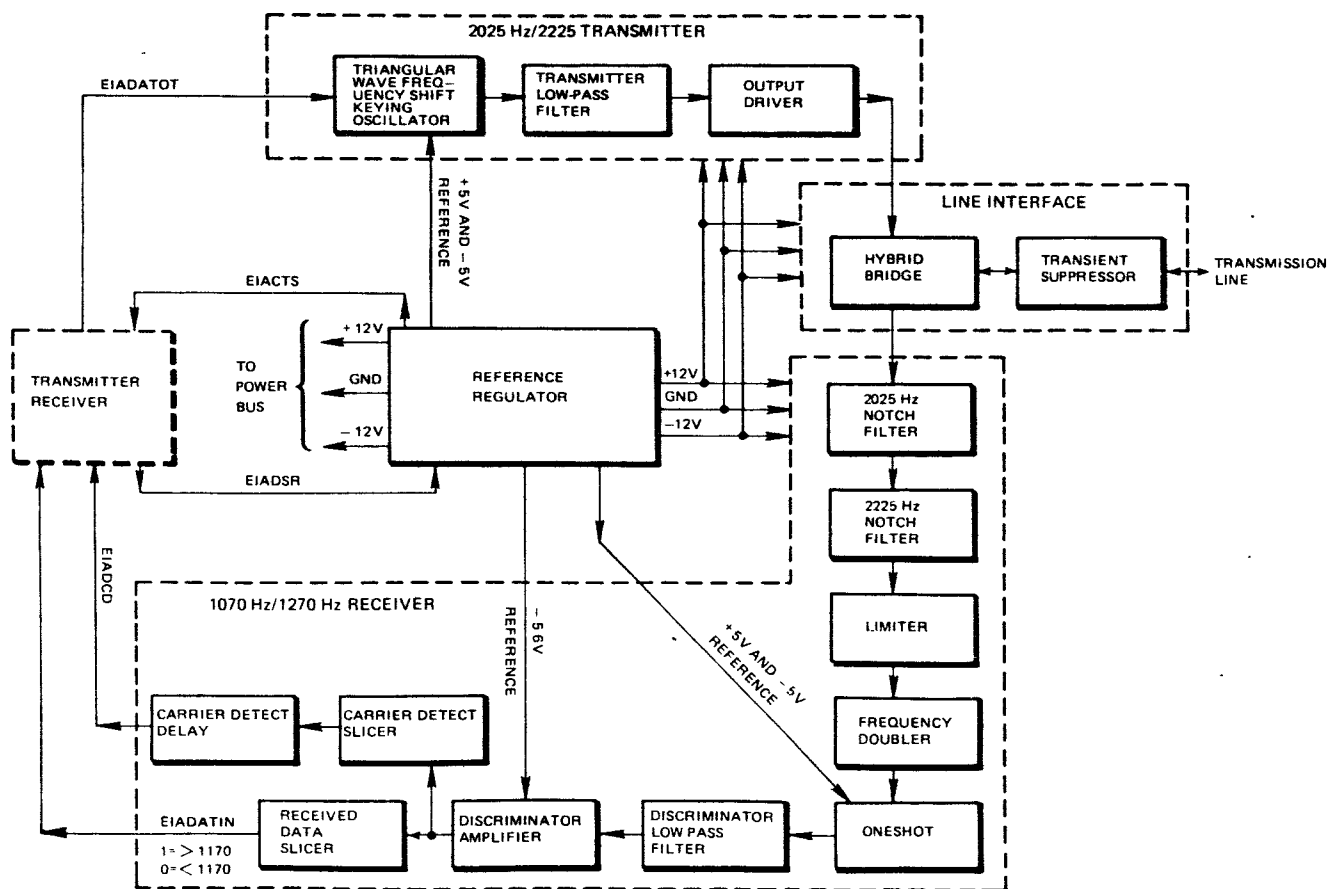

FIGURE 3-9.2. ANSWER MODE (TH) MODEM FUNCTIONAL BLOCK DIAGRAM
3-9.1.5 Modem-Answer Mode (TH). The TH Modem is an answer-mode PC card modem, designed to communicate with the comparable originate-mode TL Modem. The transmitter section of the TH Modem converts a MARK level (EIADATOT low) from the serial transmitter into a MARK (2225 Hz) frequency on the transmission line and converts a SPACE level (EIADATOT high) into a SPACE (2025 Hz) frequency on the transmission line. The TH Modem receiver section converts a received MARK (1270 Hz) frequency on the transmission line into a MARK level (EIADATIN low) for the serial receiver and converts a received SPACE (1070 Hz) frequency on the transmission line into a SPACE level (EIADATIN high) for the serial receiver. Modulation and demodulation may be carried out for data rates up to 300 baud. A block diagram of the TH Modem is shown in Figure 3-9.2.